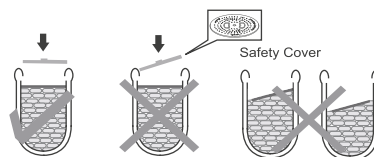

Fig. 2
3. Place the Cap of Spin Tub horizontally on top of the laundry & close the Spin Lid. (fig. 2)